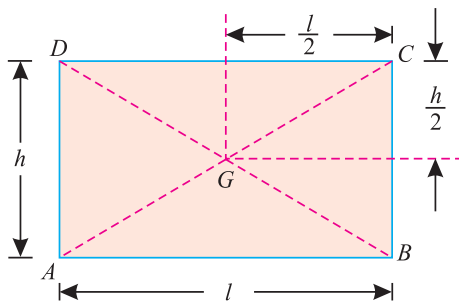

Fig. 6.1. Rectangle
2. The centre of gravity of a rectangle (or a parallelogram) is at the point, where its diagonals meet each other. It is also a middle point of the length as well as the breadth of the rectangle as shown in Fig. 6.1.